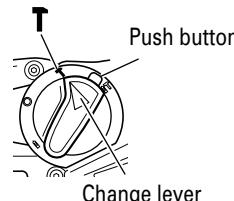

Fig. 20
This rotary hammer can be set to hammering only mode by pressing the push button and turning the change lever to T mark. (Fig. 20)
- (3) Turn the change lever to **T** mark. (Fig. 20)